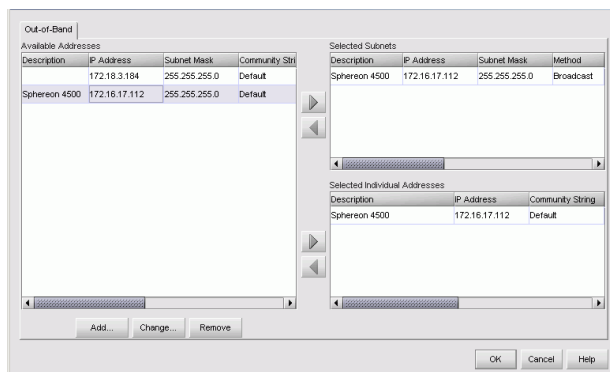

Figure 2-35 Discover Setup Dialog Box
1. At the SAN management application (EFCM or SANavigator main window), select the *Setup* option from the *Discover* menu. The *Discover Setup* dialog box displays (Figure 2-35).